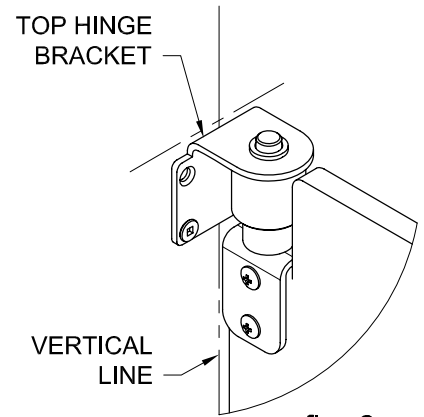

fig. 6
- a. Put door into proper position with top hinge bracket centered on vertical line (fig. 6).